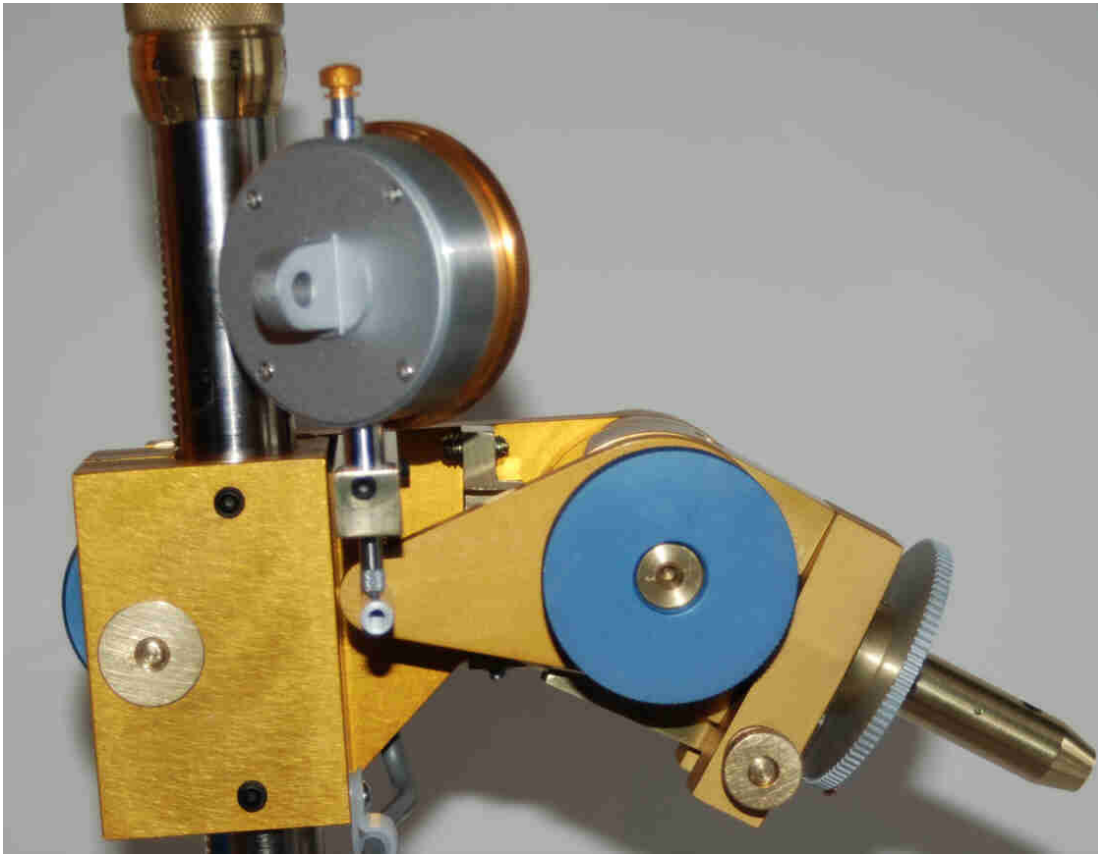

Fig 9
If the Head has a tendency to freewheel down when the Lock is released, adjust the small tensioning grub screws at the back of the Slide. Do not over tighten these screws. This will cause unnecessary wear on the vertical column (Fig 9).
(14) PIVOT BLOCK (Fig 9)